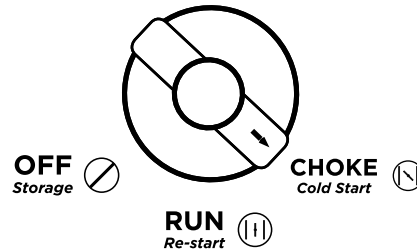

Figure 7: Turn Engine/Fuel Switch to CHOKE Position
3. For cold starting, turn the engine/fuel control switch to the **CHOKE** position (see Figure 7). **NOTE:** If you are re-starting turn knob to **RUN**.